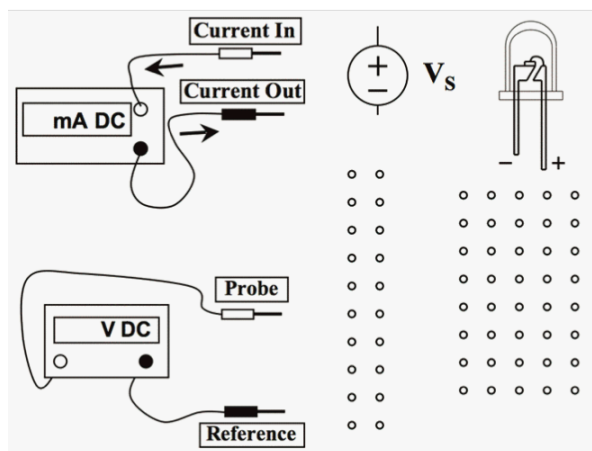

Figure 16: Connecting source and multimeter to circuit on protoboard.
2. Draw connections for the measurements of the voltage across and the current through a forward-biased LED (be careful with the polarity) as shown in Figure 16. In this circuit, no load resistor is needed. The power supply should be connected to the bus lines on the left and the LED should be connected to individual nodes on the right.